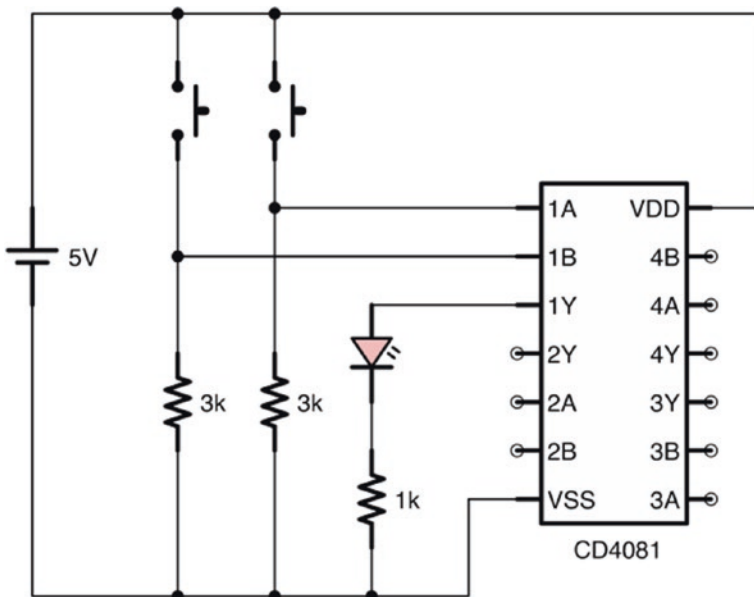

Figure 12-3. Example Circuit Using an AND Gate
Let's say that we want to build a circuit which will turn on an LED if *both* of two buttons are pushed at the same time. Figure 12-3 shows a circuit to accomplish this. It has two buttons, one wired to 1A (pin 1) and one wired to 1B (pin 2). The output 1Y (pin 3) then goes to an LED with a current-limiting resistor. You may wonder what the resistors attached to the buttons are doing. Those will be explained in Section 12.3, "Pull-Down Resistors."
In Figure 12-3, we looked at the circuit diagram for a simple AND gate. We noted that each button had a resistor connecting it to ground, but we did not mention why. In digital logic circuits, buttons and single-pole switches, when they are open, essentially disconnect the circuit. Because the inputs are high-resistance inputs (i.e., they use very little current), simply disconnecting the input circuits is not always enough to turn them
1. Draw the circuit in Figure 12-3 yourself. Identify the function of each resistor.
2. Build the circuit in Figure 12-3 (don't forget that the power source should be 5 V).
10. Take the circuit in Figure 12-3 and draw a schematic to use pull-up resistors on the inputs rather than pull-down resistors. How will this change the behavior of the circuit?